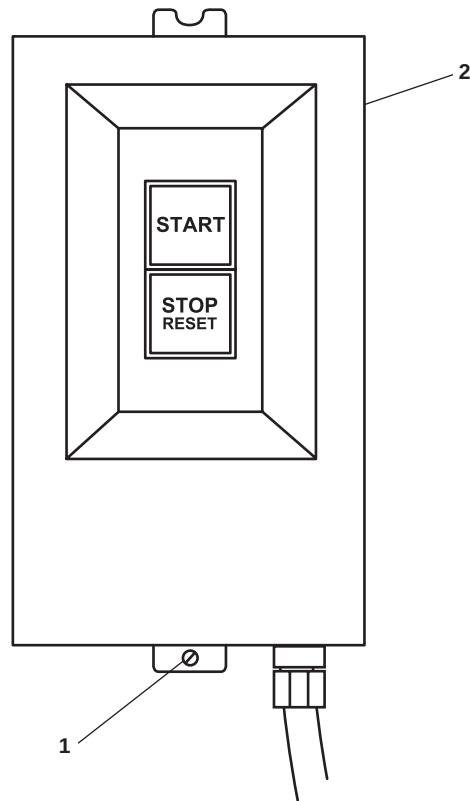
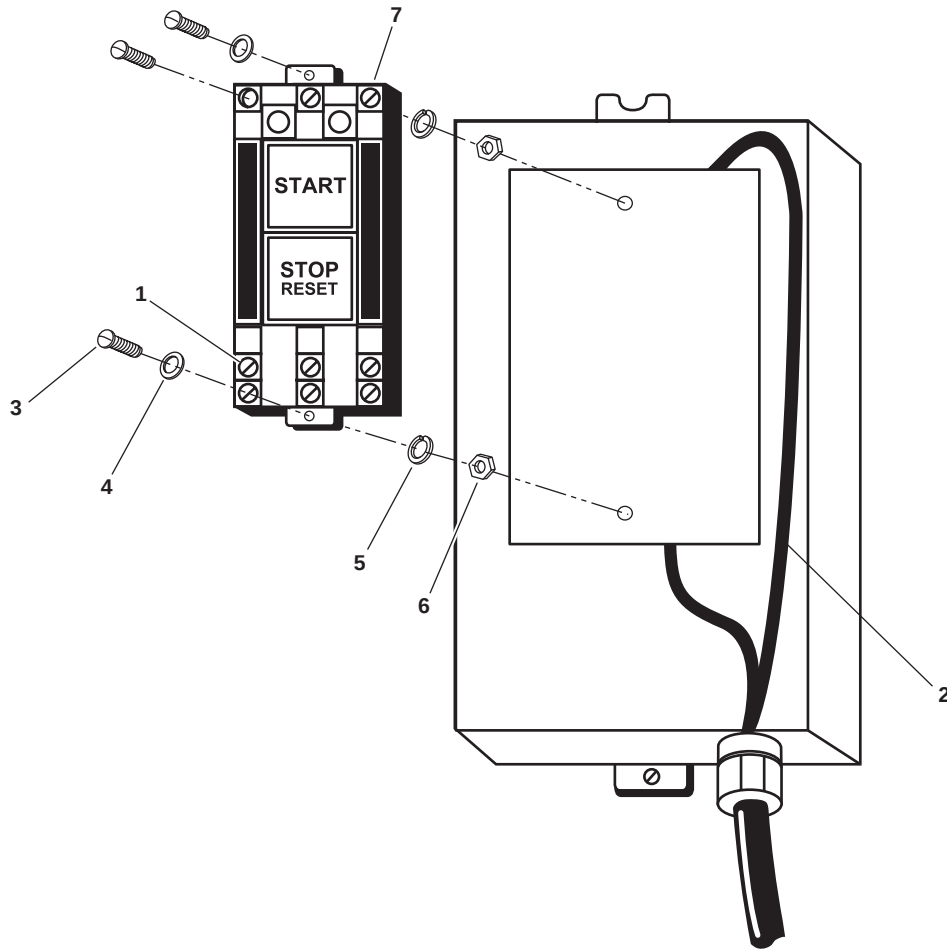

Figure 1. Motor Controller Type 6 (Typical)
Figure 2. Motor Controller Type 6 – Cover Removed
1. Remove the screw (figure 1, item 1) and then remove the front cover (figure 1, item 2) from the motor controller.
2. Use a multimeter to check for voltage at the contactor terminals (figure 2, item 1). If voltage is present, ensure that the proper circuit breaker has been set to OFF, locked out, and tagged out (FM 55-502). If no voltage is present, continue with the procedure.
3. Label and disconnect the wiring (figure 2, item 2).
4. Remove the screws (figure 2, item 3), flat washers (figure 2, item 4), lockwashers (figure 2, item 5), and nuts (figure 2, item 6). Discard the lockwashers.
5. Remove the contactor assembly (figure 1, item 7) from the motor controller.
1. Install the contactor assembly (figure 1, item 7) in the motor controller and secure it with the screws (figure 2, item 3), flat washers (figure 2, item 4), new lockwashers (figure 2, item 5), and nuts (figure 2, item 6).
2. Install the wiring (figure 2, item 2) using the labels from step 3 of Removal as a guide. Remove the labels.
3. Install the front cover (figure 1, item 2) and secure it with the screws (figure 1, item 1).